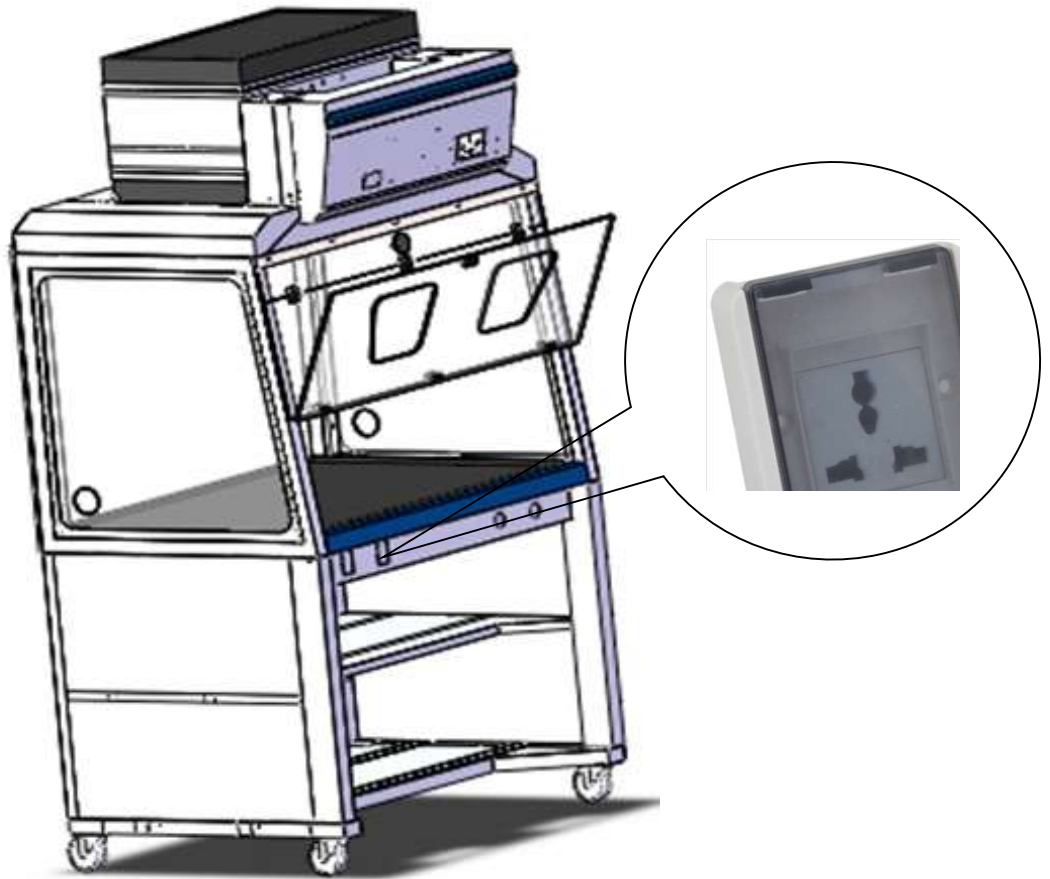

Figure 7
5.1 After confirming that there is no problem with the above items, remove the splash-proof socket on the front side (as shown in Figure 7), press the socket button, and use a multimeter to measure the voltage of the connecting socket wire (the voltage value should be the supply voltage of the device) And judge whether there is any damage inside the socket. If the voltage of the connecting socket wire is normal and the splash-proof socket is damaged, replace the splash-proof socket.